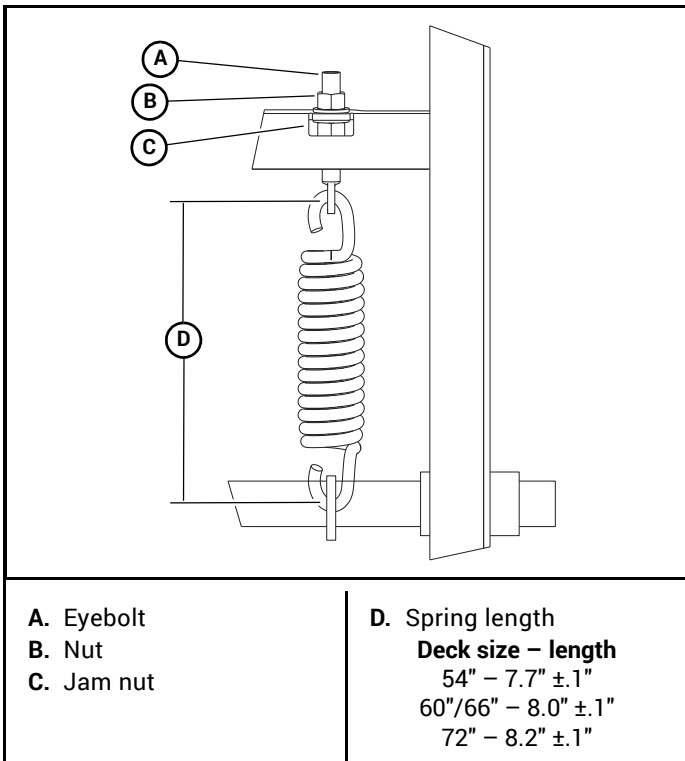

Figure 6-4
8. Adjust the deck lift assist spring tension by turning the nut until the spring length from the inside of one hook to the inside of the other hook matches the length indicated in the table. Tighten the jam nut once the distance is set. Figure 6-4